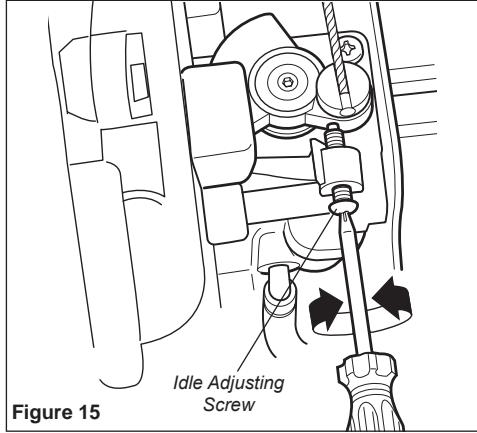

Figure 15
2. If the attachment rotates when the engine is at idle, reduce the idle speed by turning the idle adjustment screw counter-clockwise. See Figure 15.